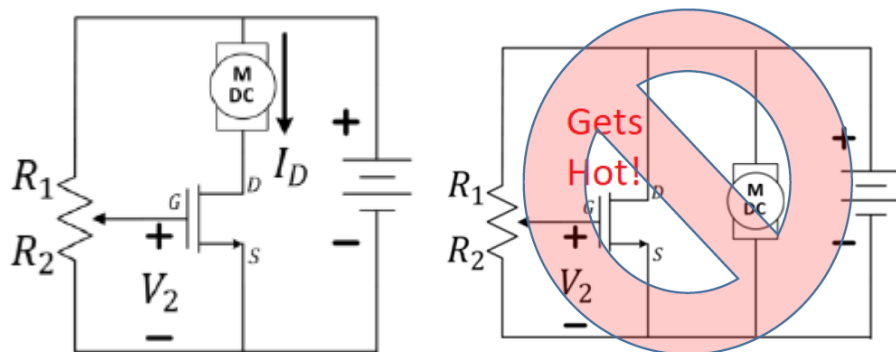

Figure 1: The voltage-divider-based motor-drive circuit (on the left). **Avoid the wiring mistake on the right!**
Build the motor control circuit shown in Figure 1 using the 30N06 n-channel MOSFETs from your kit. Use the  $1k\Omega$  potentiometer from your kit as well. The potentiometer is blue and has 102 printed on the side, meaning its value is  $10 + \text{two more } 0\text{s}$  to give a value of  $1000\ \Omega$  ( $10 \times 10^2\ \Omega$ ) from end to end. The knob controls a “wiper” that changes the location of the middle lead causing the values of  $R_1$  and  $R_2$  to change in relation to each other, that is, the wiper provides a single moveable “tap” dividing the resistor into two smaller resistors. Because it is formed from a single fixed-value resistor, in this case  $1k\ \Omega$ , it must be true that  $R_1 + R_2 = 1k\ \Omega$  always.
**Question 4:** Describe a procedure for determining the efficiency,  $\eta$ , of the voltage-divider controlled motor-drive circuit (Figure 1). Assume all power consumed by the motor is useful and all power used elsewhere is waste.